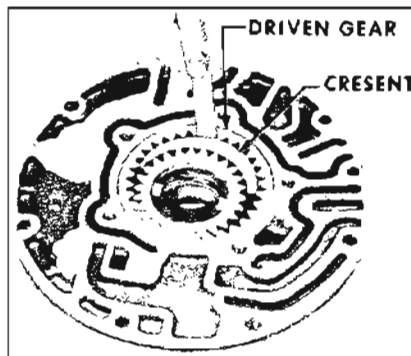

Figure 5-198
b. Check clearance between oil pump driven gear and crescent. The clearance allowed is .0005/.0100. See Figure 5-198.